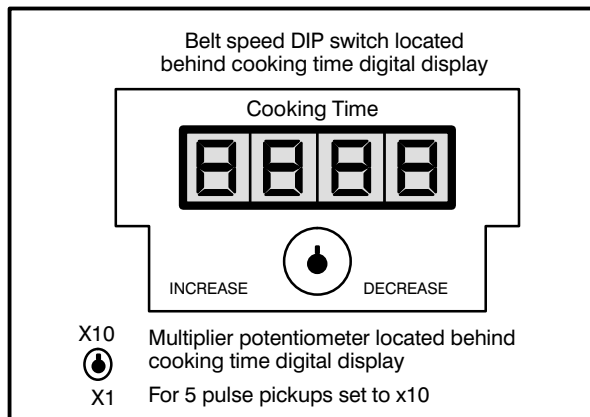

FIGURE 5
1. Remove the screws securing the cooking time display lens cover. Remove the lens cover. If a 5 pulse pickup is used, verify that the multiplier potentiometer is set to the x10 position (refer to FIGURE 5 for the potentiometer location).